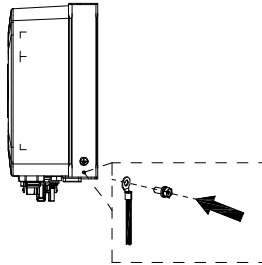

Fig 5.2 PV grounding diagram
(1) As shown in Fig 5.2, connect the output wire of the PV string to the DC connector of the inverter. Loosen the fastening nut of the connector; strip off the 15mm insulation layer of the DC cable, and use crimping pliers to press the standard metal terminal tightly. The tightening torque of the waterproof part at the tail is 2.5-3Nm. The wiring method of the positive and negative connectors is the same. Confirm that the positive and negative poles of the PV string correspond correctly to the positive and negative connectors ,then connect them firmly;